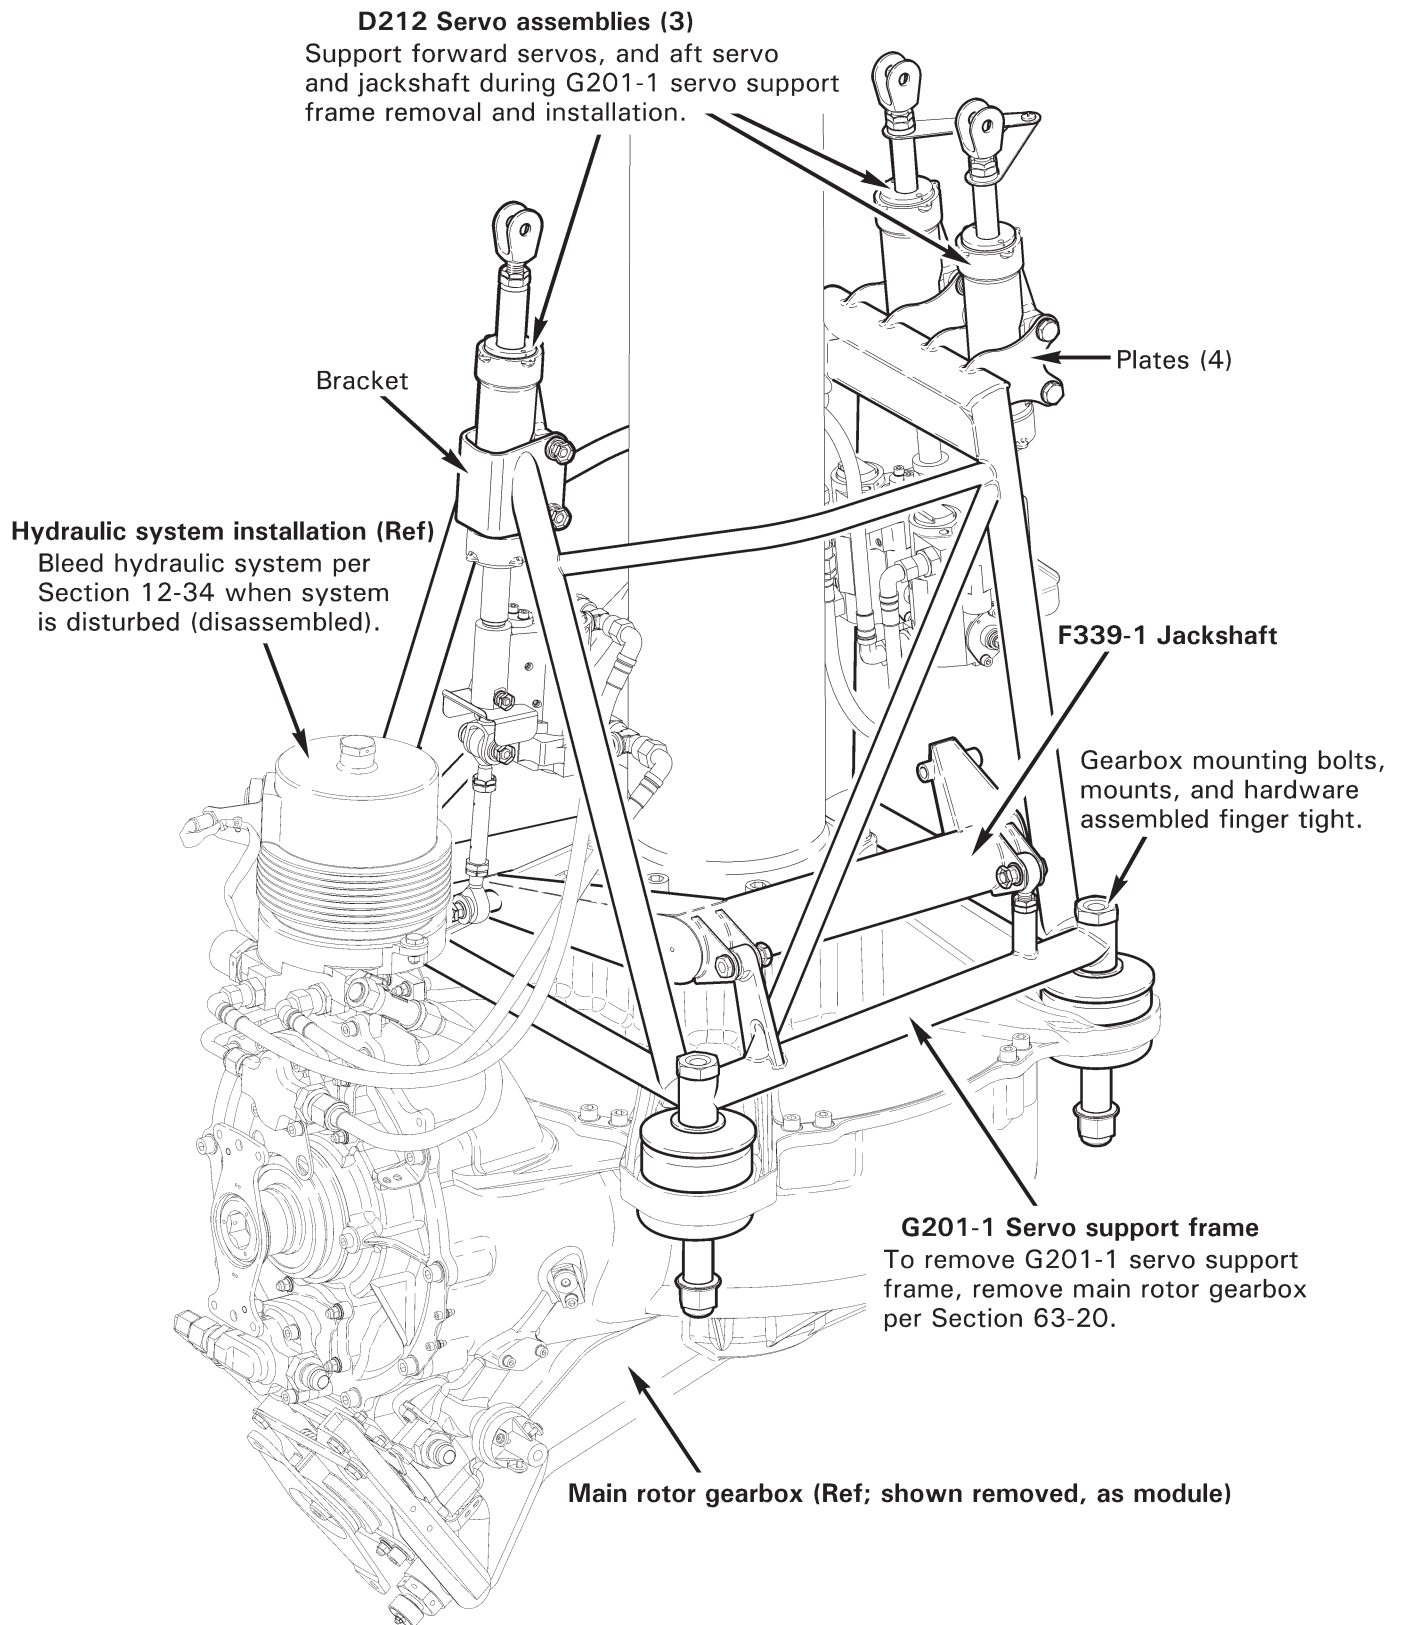

FIGURE 53-3 HYDRAULIC SERVO SUPPORT FRAME
5. Refer to Figure 53-3. Tag F121-3 push-pull tube assemblies with corresponding D212 servo assembly, and tag servos with location on G201-1 servo support frame. Remove hardware securing push-pull tubes to servos.
1. Refer to Figure 53-3. Lower G201-1 servo support frame over mast assembly, onto main rotor gearbox. Install gearbox mounting bolts, mounts, and hardware. Install nuts finger tight.